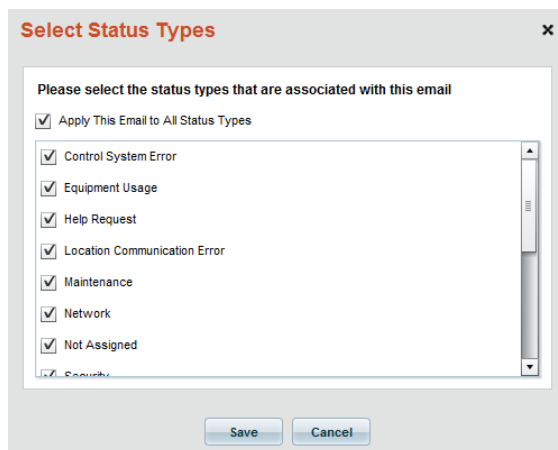

FIG. 309 Select Status Types dialog
- d. By default, E-Mail contacts are set to receive all status types. To select specific Status Types for this E-Mail address, click the Status Types Settings icon, and select from a list of supported Status Types (in the *Select Status Types* dialog - see FIG. 309).